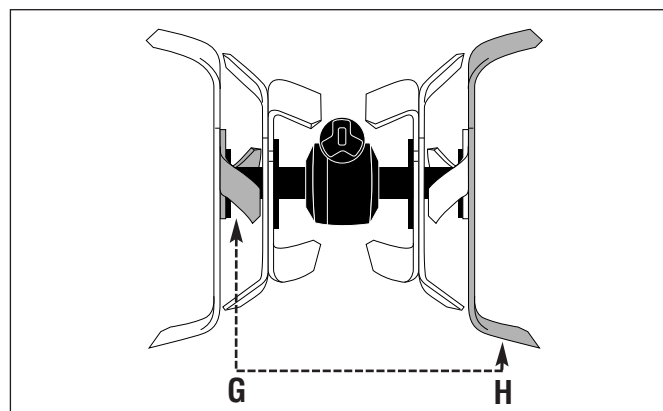

Figure 22: Exchanging position of tines at "G" and "H."
Step 4: Move the two *right-curved* tines from position "G" on the left outer holder to the "H" position on the right outer holder. Move the two *right-curved* tines which were at the "H" position to "G." See Figure 22.